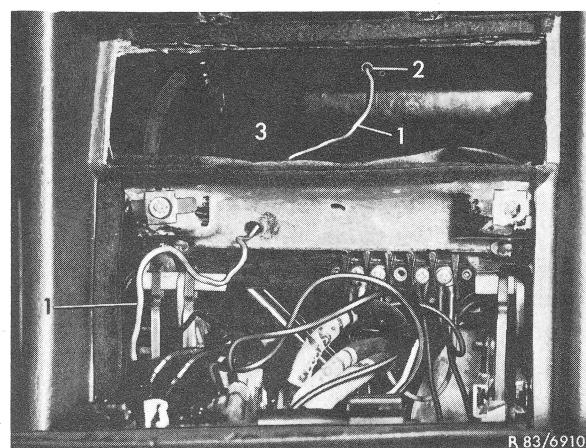

Figure 5
18 Install heater box, making sure that the capillary (1) of the temperature vacuum switch is correctly installed and completely inserted into guide pipe (12) up to yellow mark (275 mm). (83.1-100 and Fig. 5).